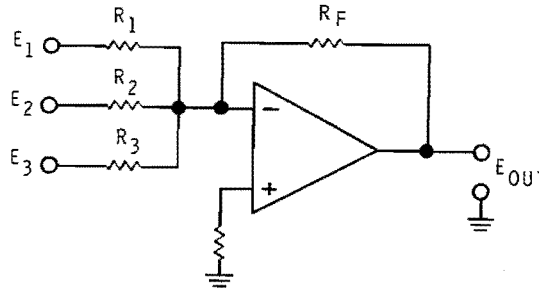

Figure 3-72
51. The circuit shown in Figure 3-72 is called a summing amplifier or analog adder. It gets this name because, if  $R_1$ ,  $R_2$ ,  $R_3$ , and  $R_F$  are equal, then  $E_{OUT} = \underline{\hspace{2cm}}$ .